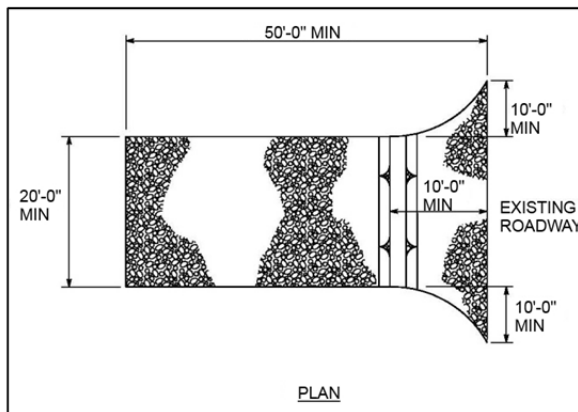

Figure 46: Rock Construction Entrance
- See **Figure 46 & 47** for construction details.